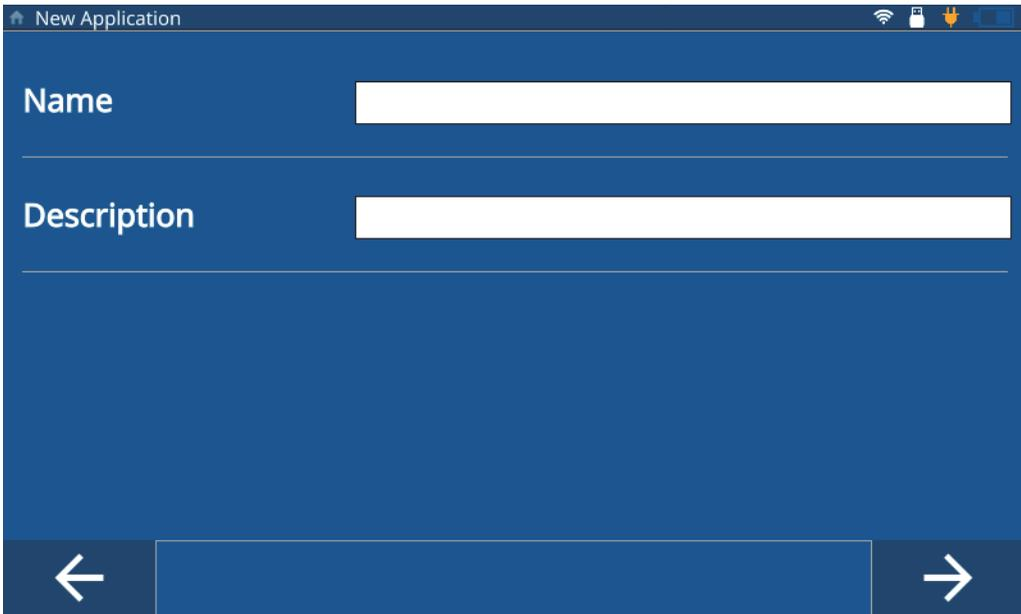

Figure 2-2 New Application Workflow
1. From the **My Applications** screen, click the **Create New** tile to enter the **New Application** workflow (See Figure 2-2 on page 14).